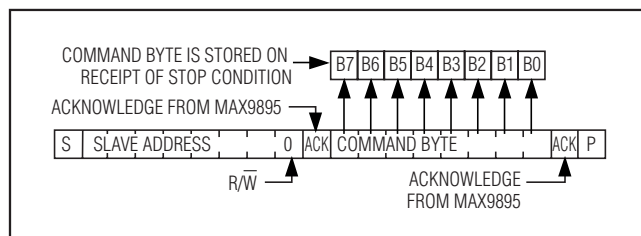

Figure 4. Write Data Format Example
A write to the MAX9895A includes transmission of a START (S) condition, the slave address with the R/W bit reset to 0, one byte of data to configure the command register, and a STOP (P) condition. Figure 4 illustrates the proper format for one frame.